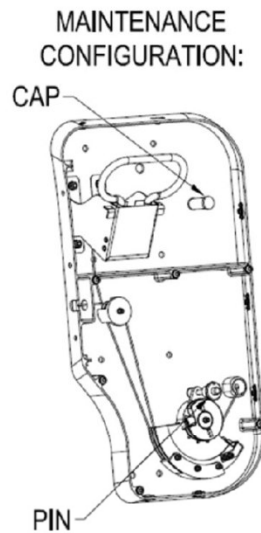

Figure 3 – Maintenance configuration mode
- (b) Put the Safety pin P/N G-C10005 in maintenance configuration mode. Lock the pulley rotation, Inserting the Pin into the hole of the Lower Pulley P/N 309877A [309771A], refer to Figure 3.